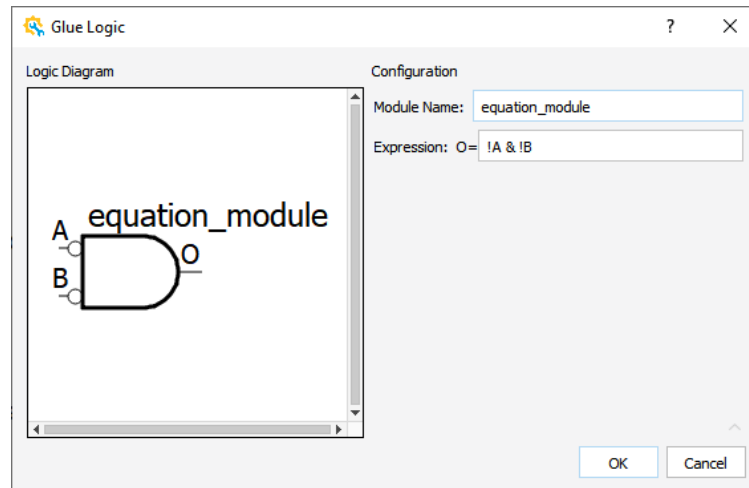

Figure 2.27. Glue Logic Wizard for Equation Module
- a. From the IP Catalog, select the **equation** module. Double-click the equation module, or drag and drop the equation module to the Schematic view. A Glue Logic wizard (Figure 2.27) pops up.